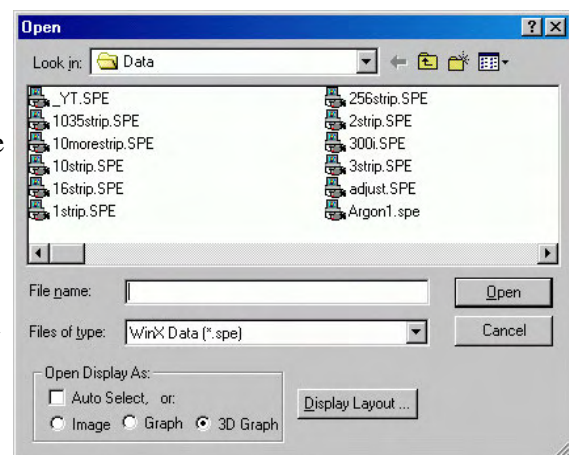

Figure 37. Open dialog box
1. Select Open from the File menu. The File Open dialog box will appear (Figure 37).
2. Open the directory containing the data files. Clicking on the button at the right of the Look In field opens a browser function, allowing you to quickly and easily access the correct folder. As shown in Figure 37, the data files will be listed below.